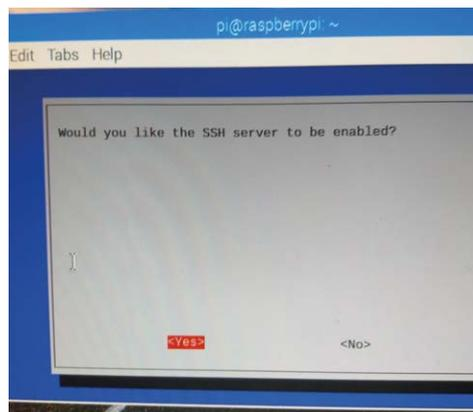

Figure 2.7 Enable the SSH server
- to go into the configuration menu and select **Interface Options**. Go down to **P2 SSH** and enable SSH as shown in Figure 2.7